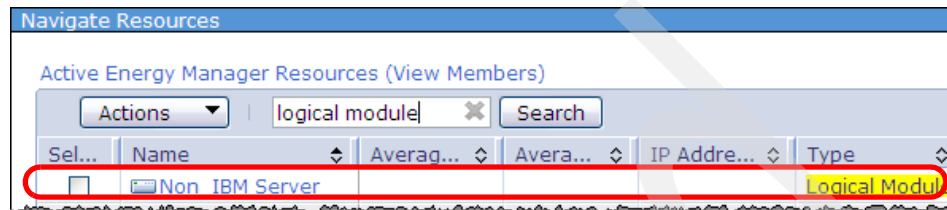

Figure 8-24 Logical Module from PDU+ Outlet Group is created
5. Finally, the system (in this example Non\_IBM Server) that is connected to Outlet Group 1 is created as a Logical Module, as shown in Figure 8-24. Thus, Active Energy Manager monitors power data at the level of the individual system just as it monitors power consumption by the service processor.